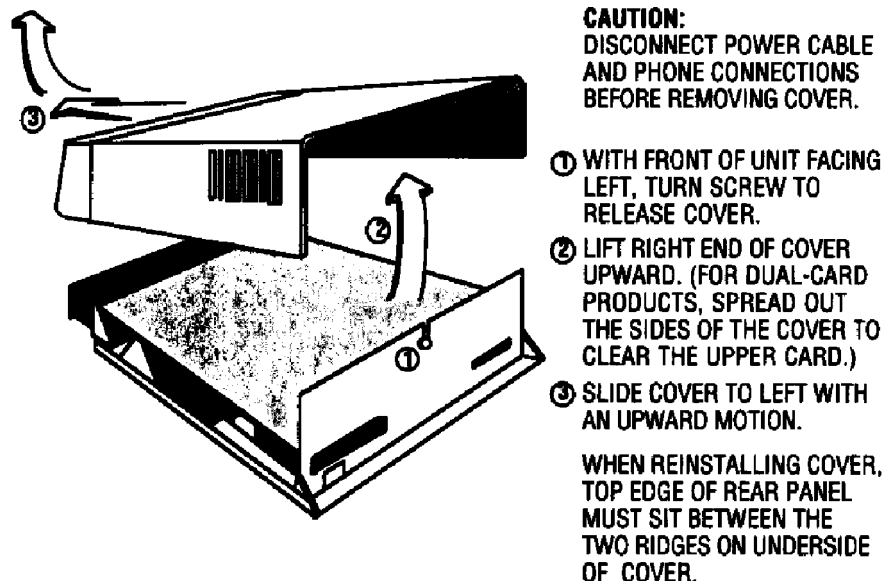

Figure 2-1 DataComm Enclosure Cover Removal
The DC 554 DSU can be installed in two types of DataComm enclosures. The cover removal procedures are the same for both types, as shown in Figure 2-1.
3. Remove the cover as shown in Figure 2-1.